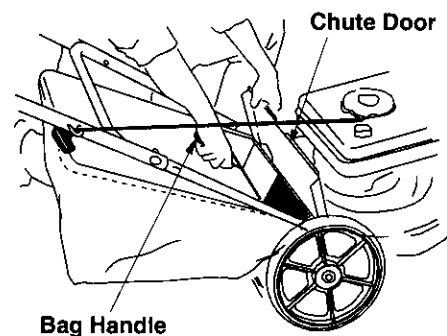

Figure 10
- Lift the discharge door and pull the grass bag away from the mower. See Figure 10.